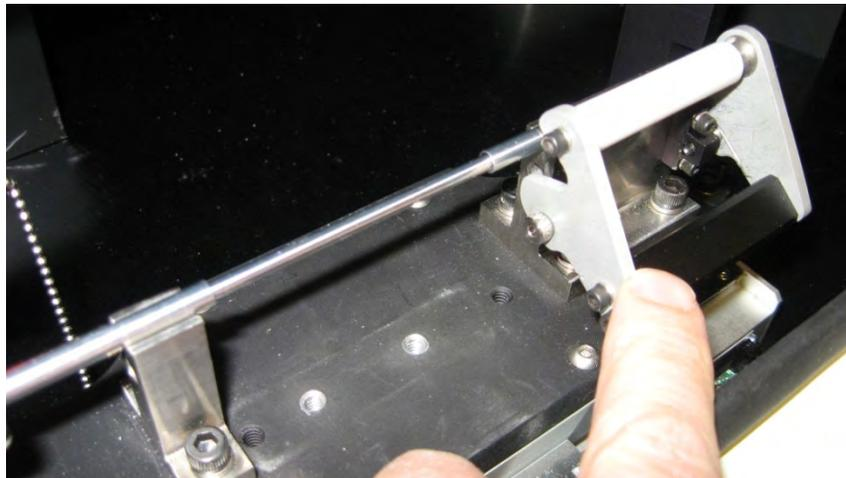

Figure 8 – Tension Arm Operation
2. Push down on the black area of the tension arm to lift it off of the tube holding area (figure 8).